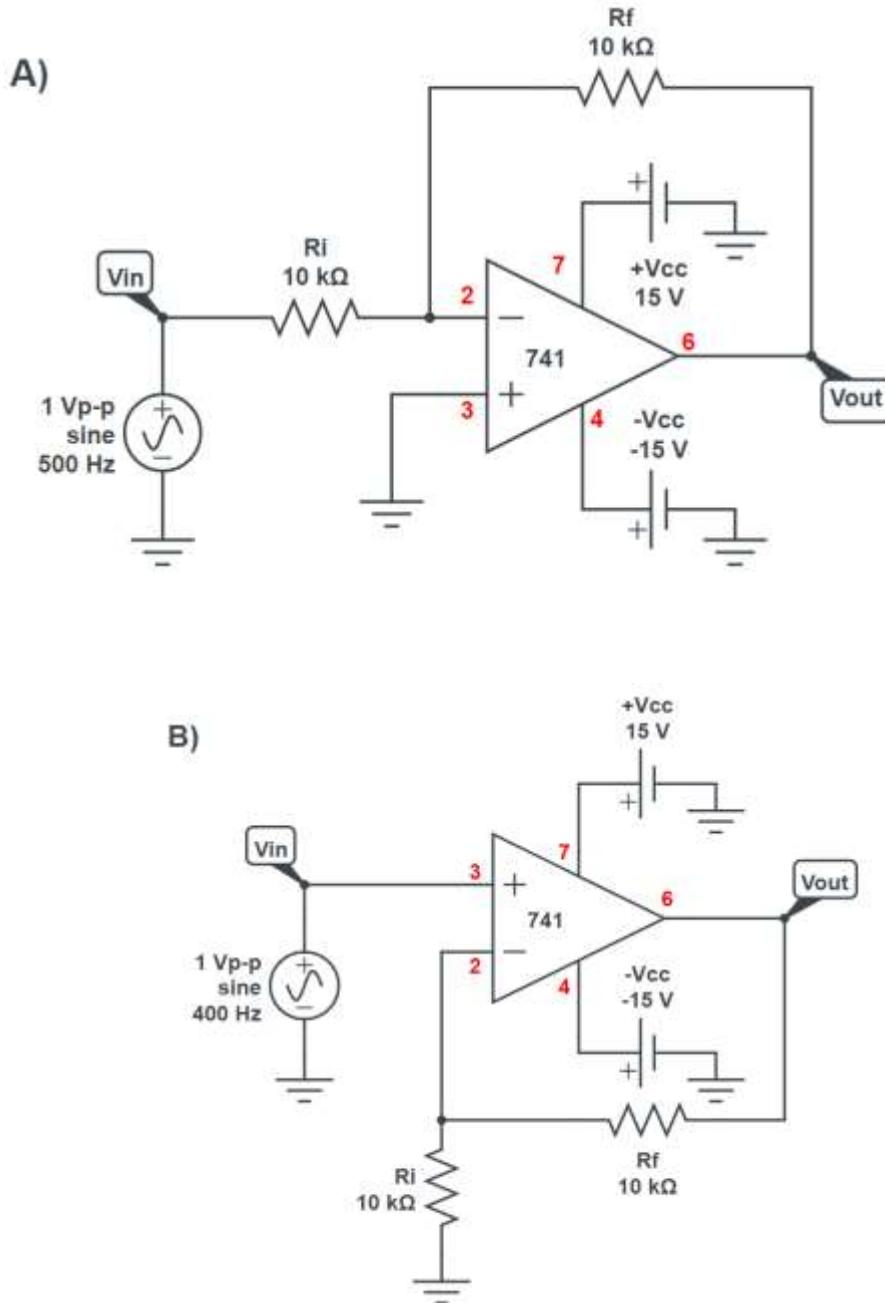

FIGURE 13.1-1: Schematic Diagram of Circuits
*Note the orientation of pins 2 and 3 in Figures 13.1-1 A and B